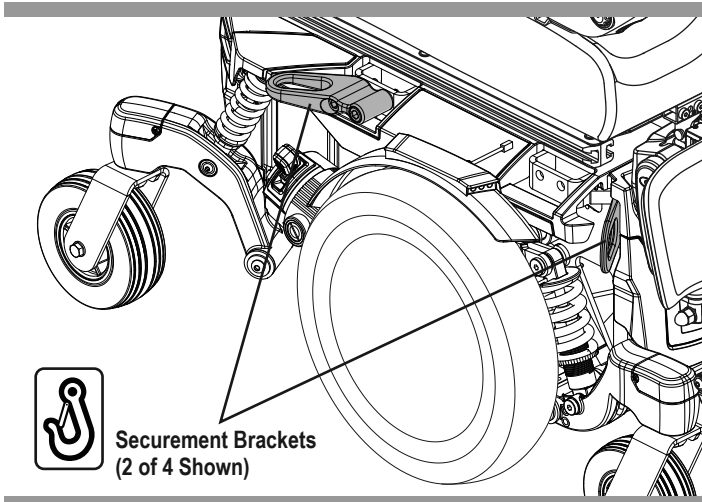

Figure 9. Transit System Securement Brackets
If your power chair is equipped with a transit securement system, it is equipped with manufacturer installed front and rear securement brackets and may be equipped with positioning belt anchoring brackets. **See figure 9.** Refer to the supplement provided with your power chair for information on how to use the transit securement system.
- Attach the four (4) tie-down straps to only designated, labeled transit securement points indicated by anchor symbols on the power chair. **See figures 9 and 10.** Tighten the straps sufficiently to remove all slack.